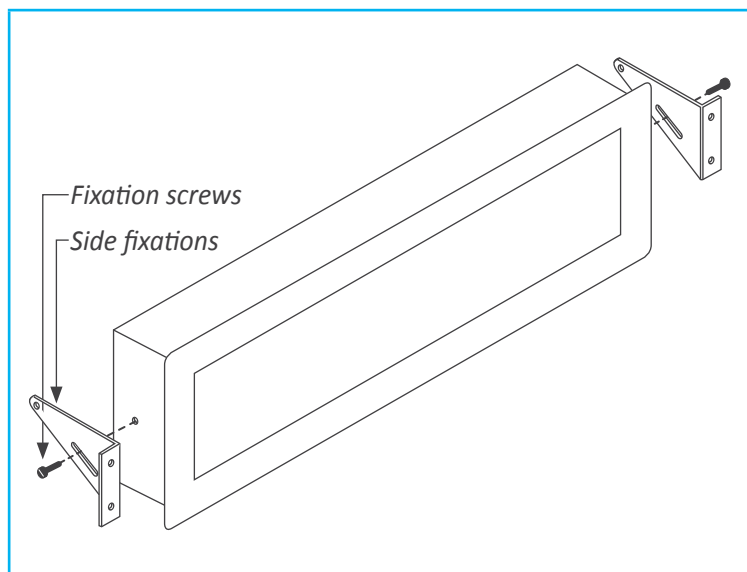

Figure 10 - Panel mount
- Panel mount. Apply the cut-out to the panel as seen on section 1.4. Remove the side fixations. Introduce the instrument into the panel cut-out. Mount the side fixations as shown (see Figure 10). Slightly loosen the fixation screw of one side and press the instrument against the panel. Tighten the fixation screw so it presses the panel and maintains the fixation. Repeat with the opposite side fixation. For IP65 protection at the panel junction, see the IPB accessories at section 3.